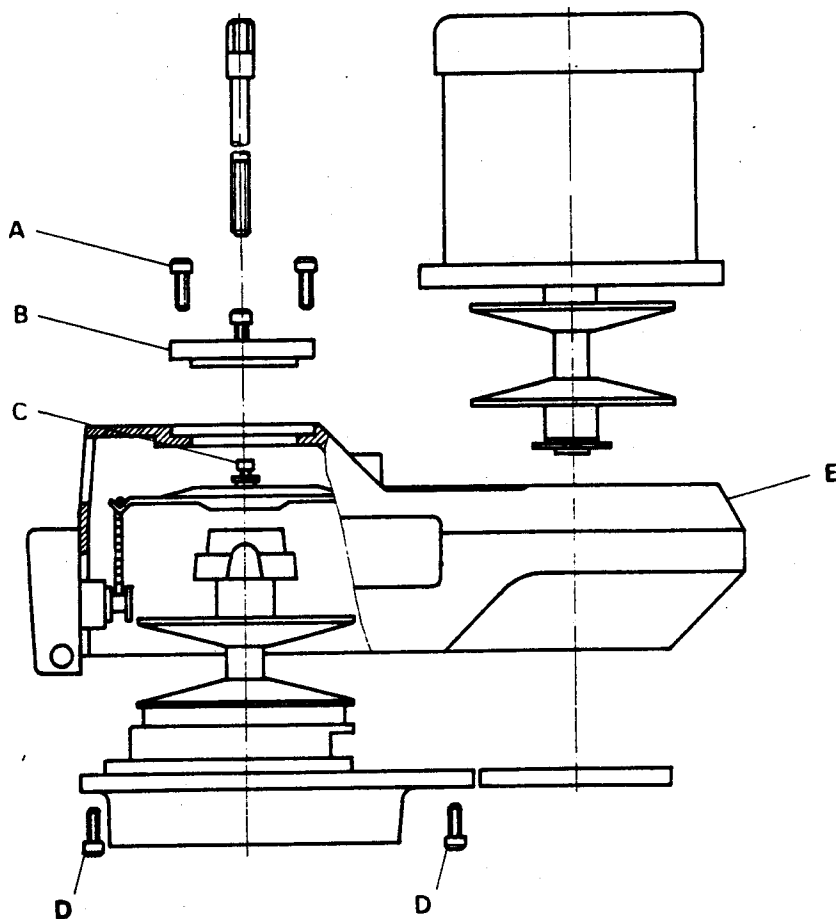

Figure 11. Removing the Vari-Drive Belt
CHANGING VARI-DRIVE BELT (Figure 11)
Complete the previous procedures for removing the motor, then remove the three screws (#1,page 38) (A. Fig. 11) and lift out the top bearing cap (#13,page36) (B). Looking down inside of the housing, locate and remove two socket head cap screws (#17,page 38) and sleeves (#19,page 38) (C). Next, remove the six screws (#64,page 38) (D), then holding the belt housing (E) to the base (#63,page 38).